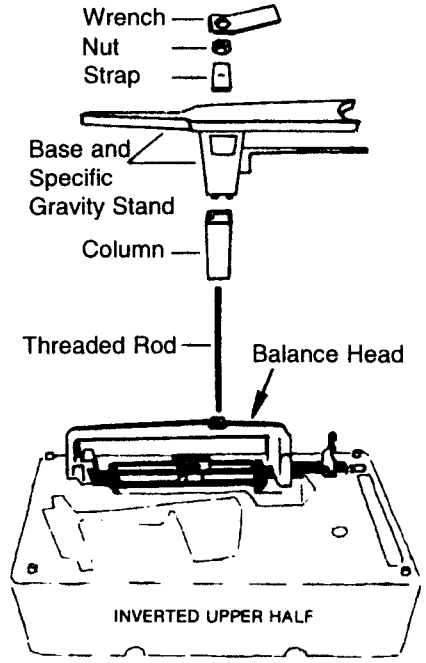

Figure 5.
- 3. Remove the balance head from the lower half of the poly-container. Invert the balance head and nest it in the recess of the top half of the poly-container. See Figure 5.